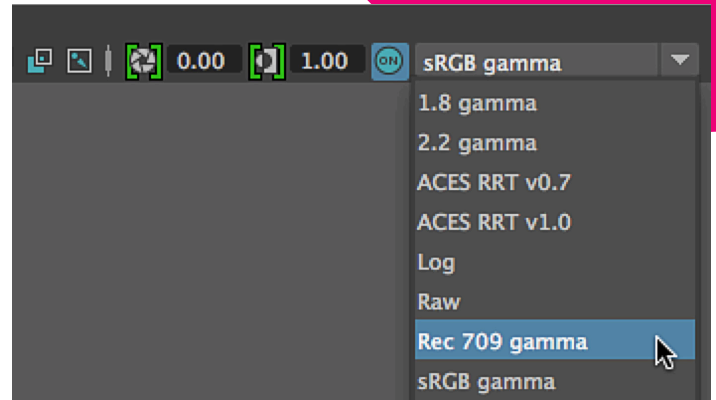

Figure 57
4. To preview a scene in a different color space, click on the pulldown menu in the View Transform section of the tool bar (Figure 57) and select your desired other color space.